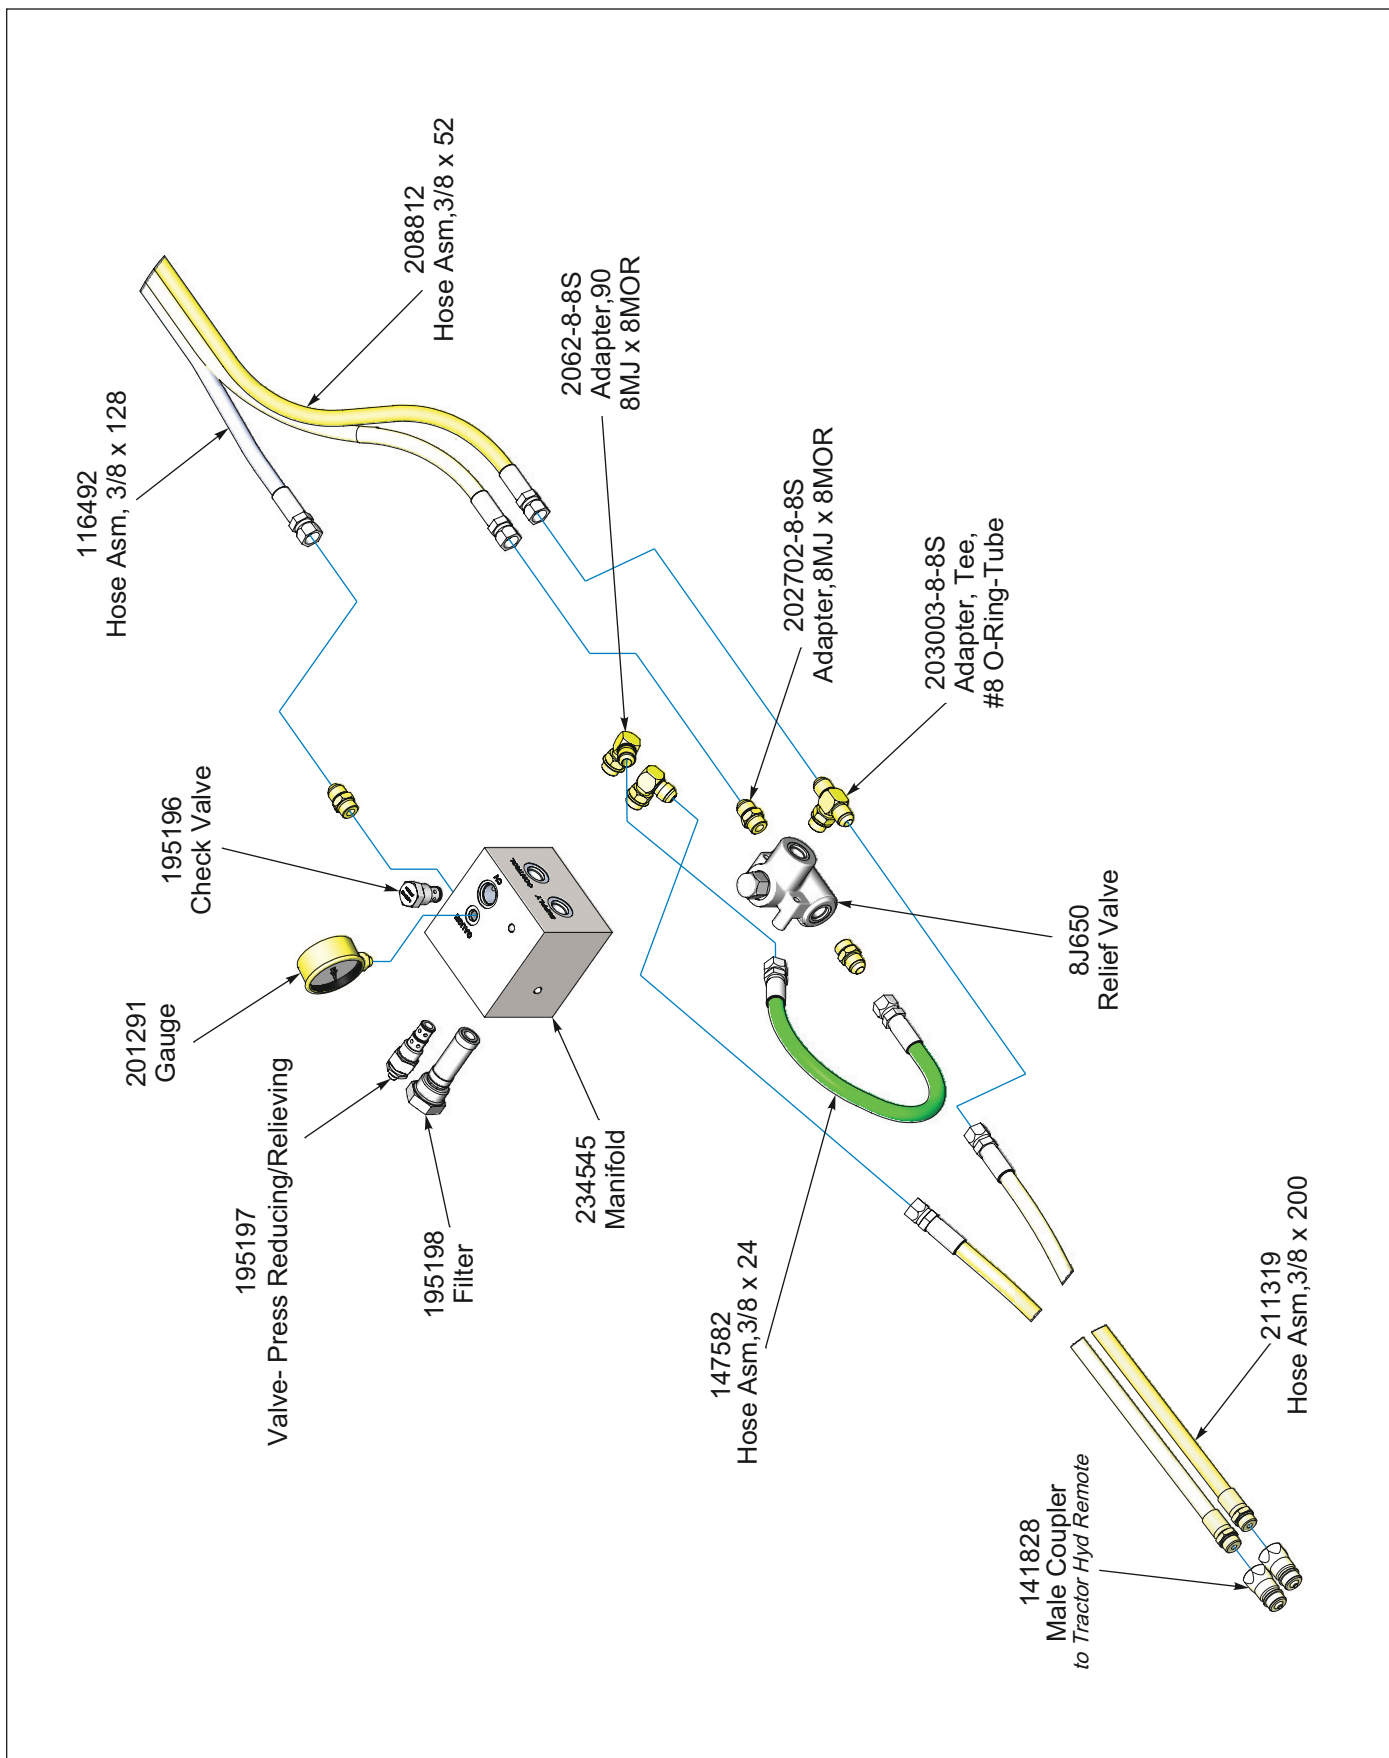

Figure 2-21: Fold/Down Pressure Valve Schematic
2. Fold Circuit - Yellow - See Figures 2-21, 2-22 and 2-23. The Fold Circuit with wings folded requires approximately 5.9 gallons of hydraulic oil and with wings unfolded requires 7.2 gallons of hydraulic oil.